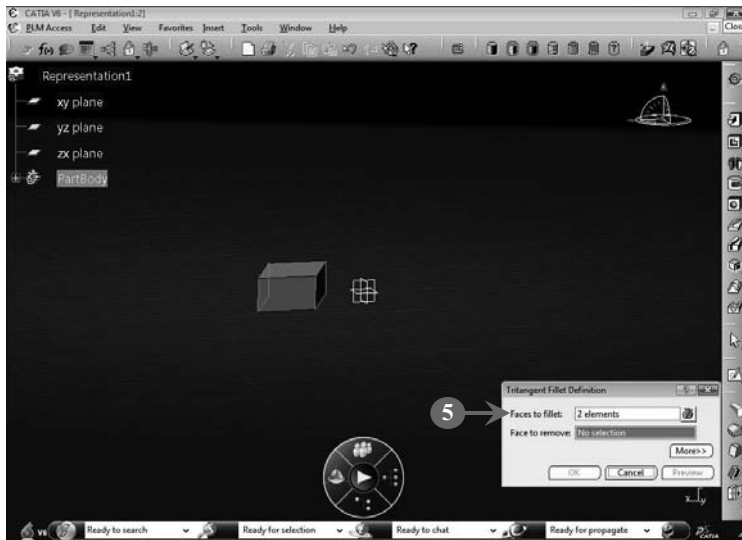

FIGURE 3.66
5. *Select* the second face (opposite to the previously selected face) to fillet, as shown in **Figure 3.66**: